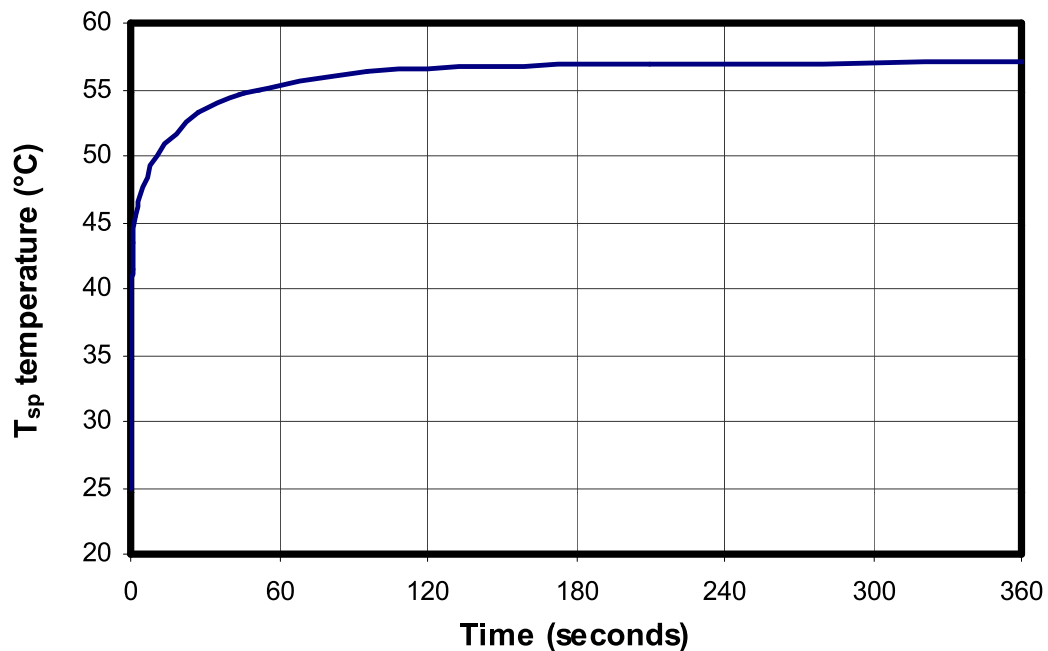

Figure 4. Measured  $T_s$  versus time for a LUXEON LED (mechanical configuration A). The temperature has not changed much after 3 minutes.
11. Power up and start recording the  $T_s$  until temperature stabilization is achieved. This may take a minute or more depending on the overall thermal design. See Figure 4.
12. Use equation (3) to calculate the junction temperature  $T_j$ .
The graph in Figure 4 shows experimental temperature data over time for a LUXEON LED with mechanical configuration A. Using the data from Figure 4, the equilibrium temperature for  $T_s$  is about 57°C.